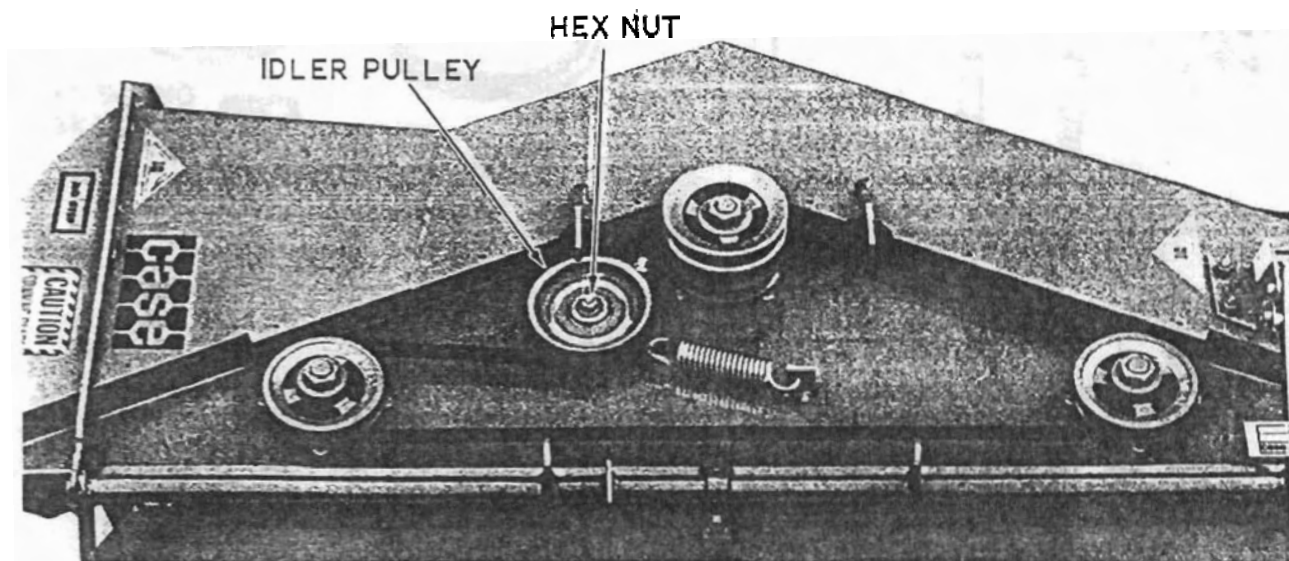

Figure 10.
8. Mower Deck Belt Replacement: See Figure 10